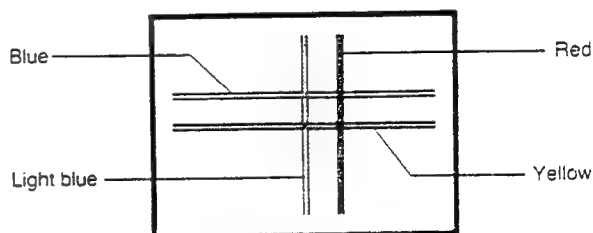

Fig. 2 Horizontal and vertical misalignment
- 4 If you see separate colored lines (Fig. 2 to 4), use the R/B, ◀, ▶, ▲, and ▼ keys on the remote control unit to make the red and blue lines disappear into the other lines. Pressing the R/B key alternates the line (red or blue) to be controlled. Pressing the ◀ key moves the vertical line to the left, while pressing the ▶ key moves the vertical line to the right. Pressing the ▲ key moves the horizontal line upward, while pressing the ▼ key moves the horizontal line downward. In figure 2, for example, press the R/B key to control the red line, and then press the ◀ key until the red line converges. Press the R/B key again to control the blue line, and then press the ▼ key until the blue line converges. Convergence is correct when all three colors (red, green, and blue) converge, producing single white lines.